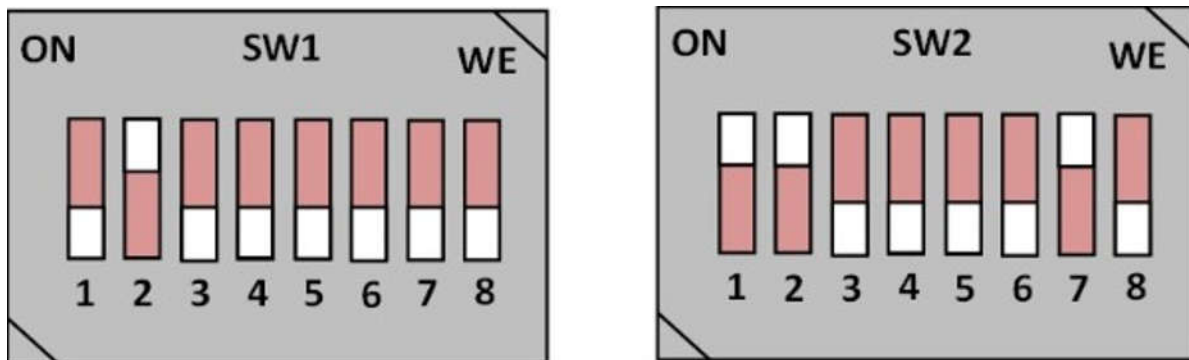

Figure 2-5. Example Boot Mode (MMCSD Boot)
1. Place the EVM boot switch selectors (SW1, SW2) into selected boot mode. Example boot mode for SD card is shown in Figure 2-5.